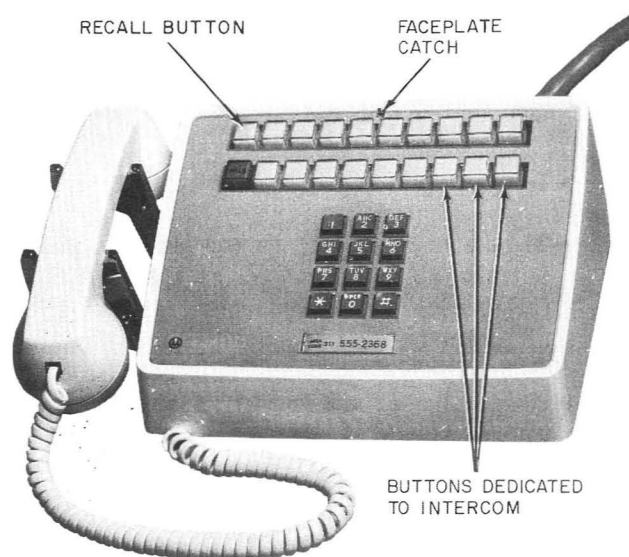

Fig. 1—2831DM (MD) or 2831FM Telephone Set
2.01 The 831- (Rotary dial) and 2831- (TOUCH-TONE dial, Fig. 1) type telephone sets are obtainable as modular or complete desk-type, 20-button, key telephone sets equipped to provide standard key system features. Refer to Table B for available colors.